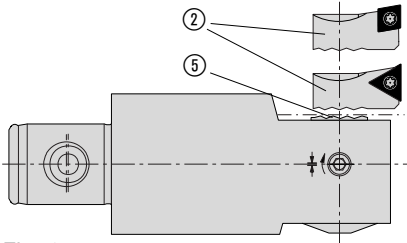

Fig. 3
The slider ⑤ is especially profiled to fixed quick and easy different insert holders ② (Fig. 3).